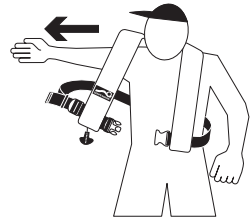

Figure 7
- Step 2.** Put your right arm through the shoulder and back strap (Figure 7).